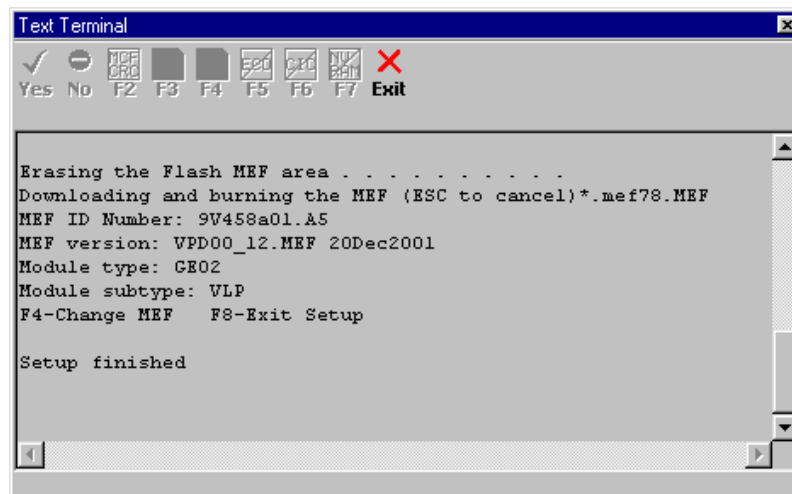

Figure 3-12
11. Select the **Exit** button to exit setup. “Setup Finished” is displayed in the Text Terminal screen (see figure 3-12), then the screen refreshes with the current configuration data, then the CPU/CPU2 module reboots.